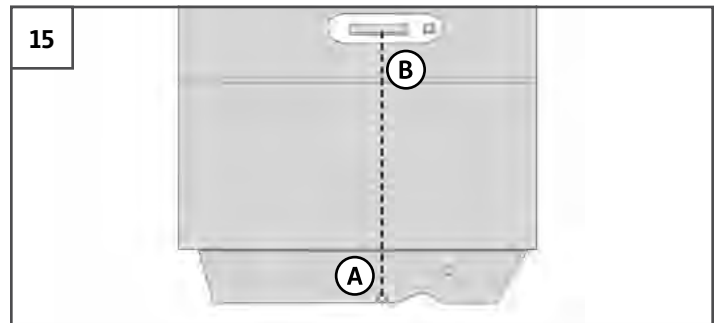

FIGURE 15: ALIGNING THE BOOM MOUNT CHANNEL
1. Set the boom mount channel against the edge of your extension table, lining up the **MOUNTING PIN (A)** on the boom mount with the centre of the **BLADE (B)**. See Figure 15.